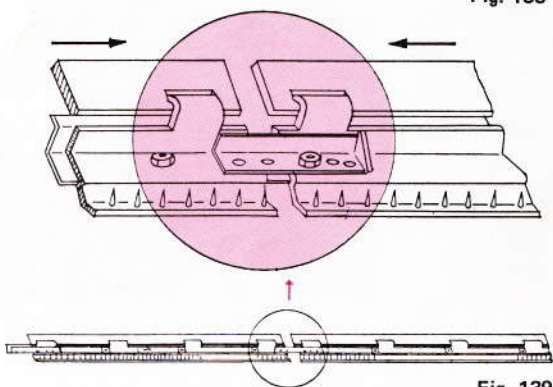

Fig. 139
- Join the weight combs as indicated in fig. 139 according to the width of the knitting.